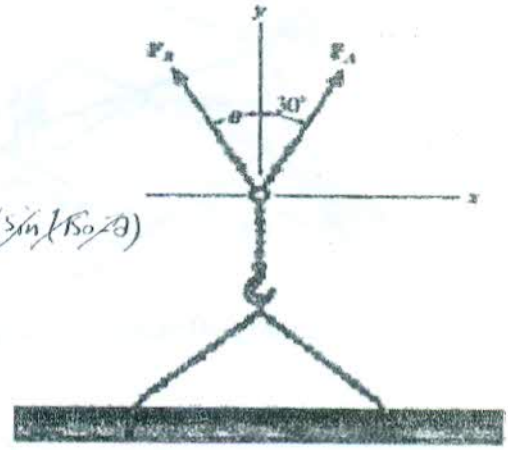

Fig. 1 Schematic Diagram of Prob. #2
2. The beam, show in the Fig. 1, is to be hoisted using two chains. If the resultant force is to be 600 N directed along the positive y- axis and F_B lies in the second quadrant (-x, +y), determine graphically or analytically the magnitudes of forces F_A and F_B acting on each chain and the angle θ of F_B for the following cases: be (5 Marks)